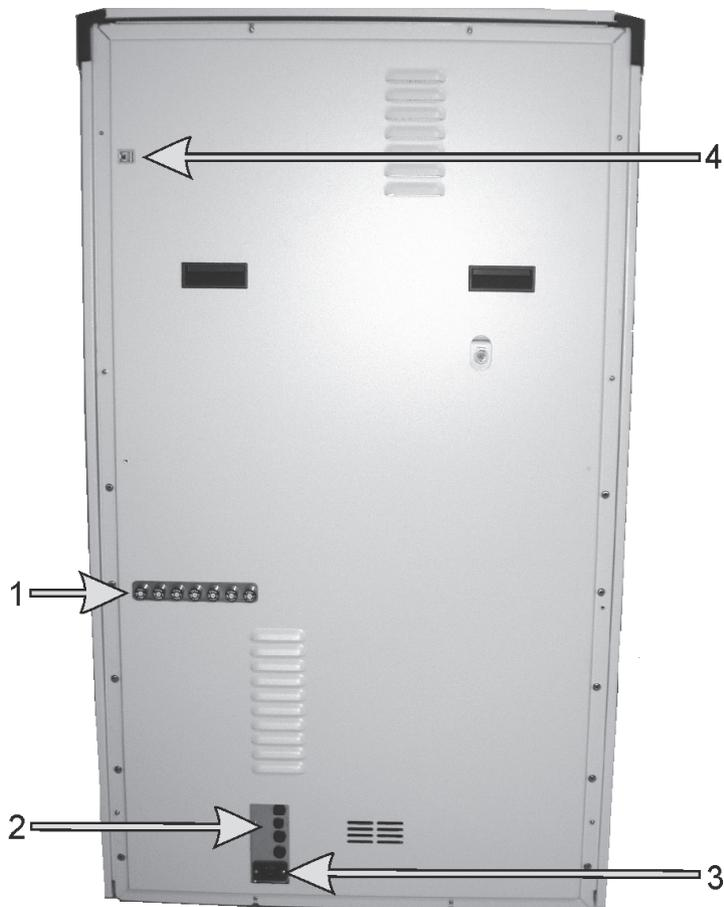

Figure 25: BOND-III back cover
Figure 25 shows the back cover of the BOND-III processing module.
2. Trace the power cable from the processing module mains power connection (item 3 in Figure 25 and item 4 in Figure 26) to the wall. Switch off the mains power supply at the wall socket.